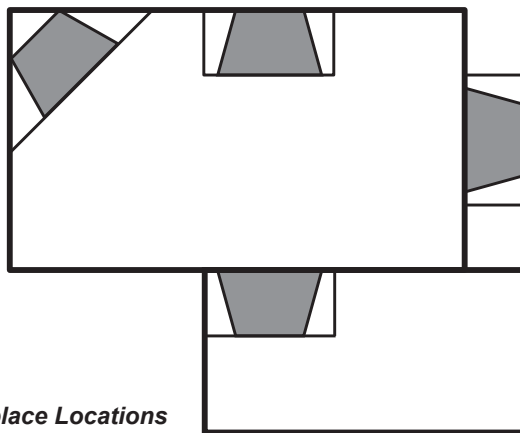

Figure 4 - Possible Fireplace Locations
- Minimize modifications to existing construction. *Refer to Figure 4* below for location suggestions.